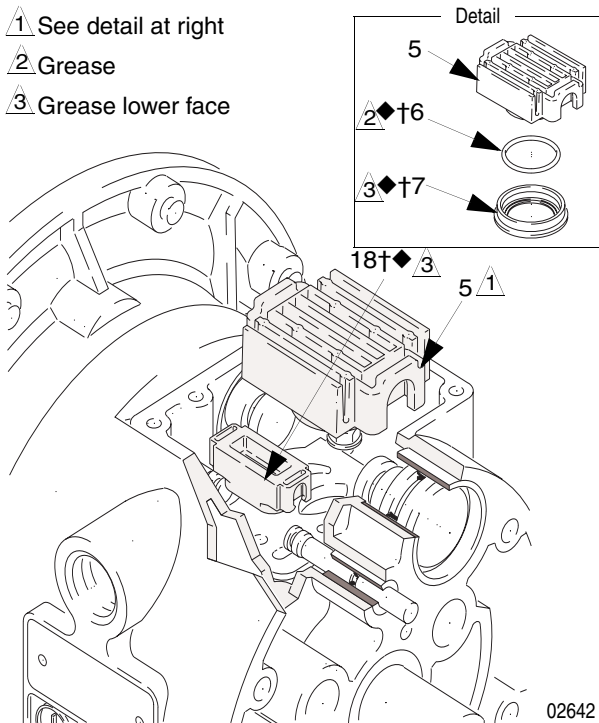

FIG. 6
3. Move the valve carriage (5) to the center position and pull it out of the cavity. Remove the valve block (7†◆) and o-ring (6†◆) from the carriage. Using a needle-nose pliers, pull the pilot block (18†◆) straight up and out of the cavity. See FIG. 6.
7. Grease the lower face of the pilot block (18†◆) and install so its tabs snap into the grooves on the ends of the pilot pins (16). See FIG. 6.
8. Grease the o-ring (6†◆) and install it in the valve block (7†◆). Push the block onto the valve carriage (5). Grease the lower face of the valve block. See FIG. 6.
9. Install the valve carriage (5) so its tabs slip into the grooves on the narrow end of the actuator pistons (11). See FIG. 6.